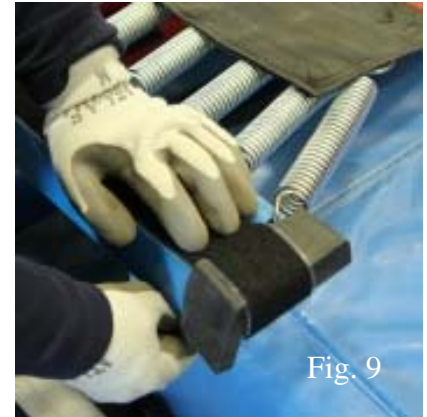

Fig. 9
- Use the extra 6" of Velcro to wrap around the endcap and fasten the Velcro to the underside of the rail (See Fig. 9).